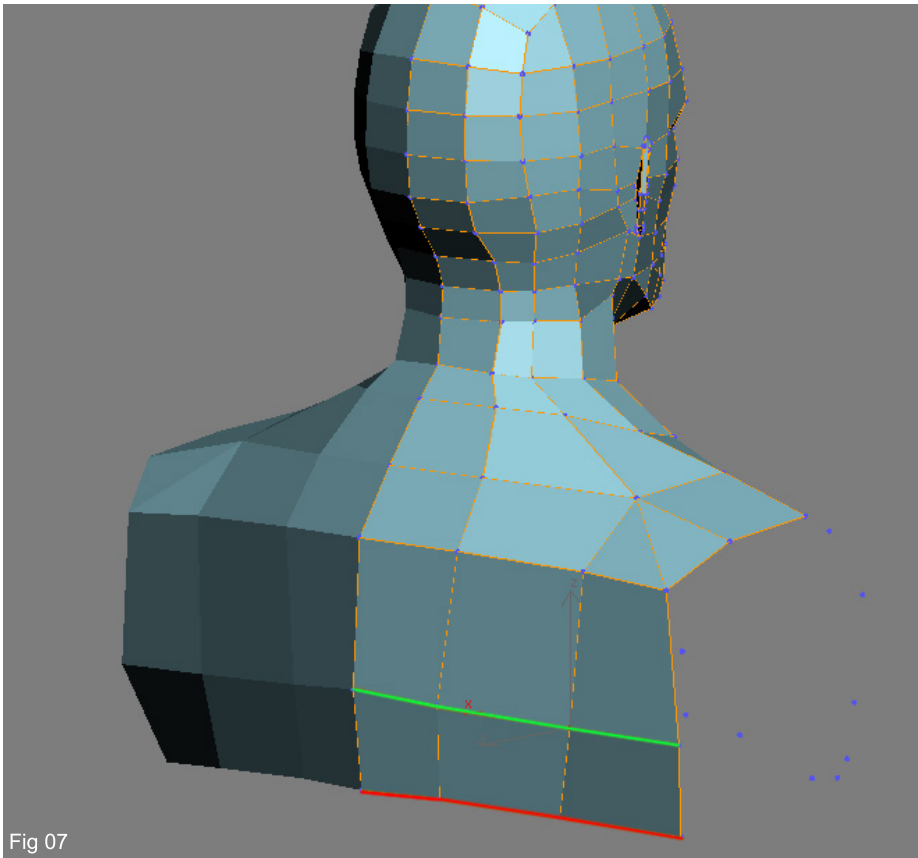

Fig 07
7. We can do the same thing to also form the upper back (Fig07).